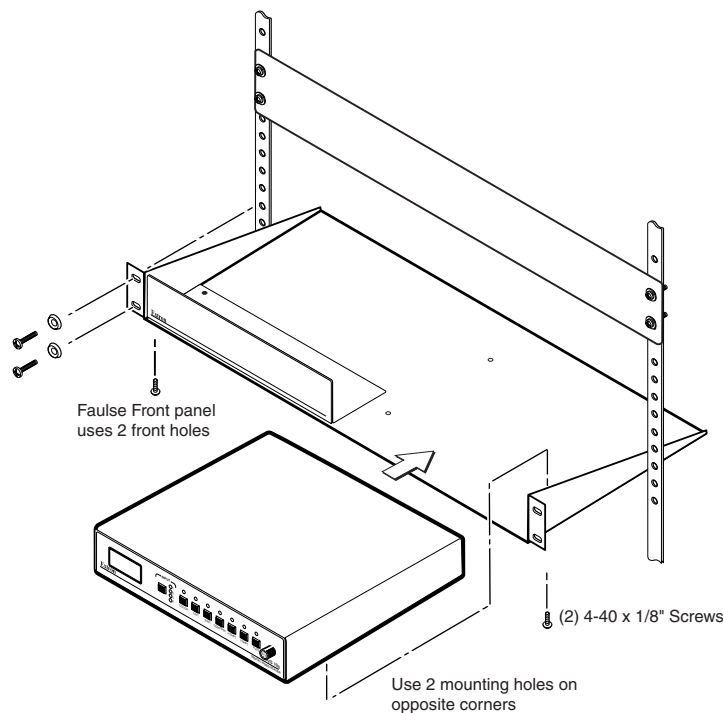

Figure 2 — Mounting the scaler
2. Mount the scaler on the rack shelf as shown in figure 2. Use two 4-40 x 1/8" screws in opposite (diagonal) corners to secure the case to the shelf.